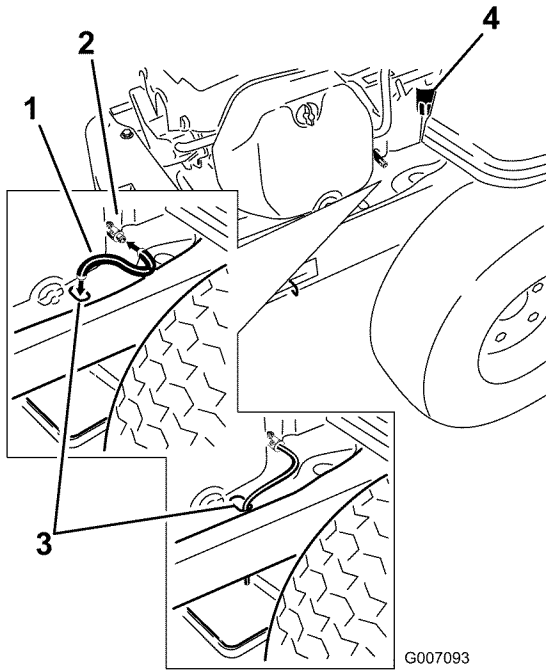

Figure 29
5. Clean the area around the drain valve and on the machine frame. Locate the oil drain hose and slide it over the drain valve (Figure 29).
6. Place the opposite end of the oil drain hose through the drain hole in the frame (Figure 29).